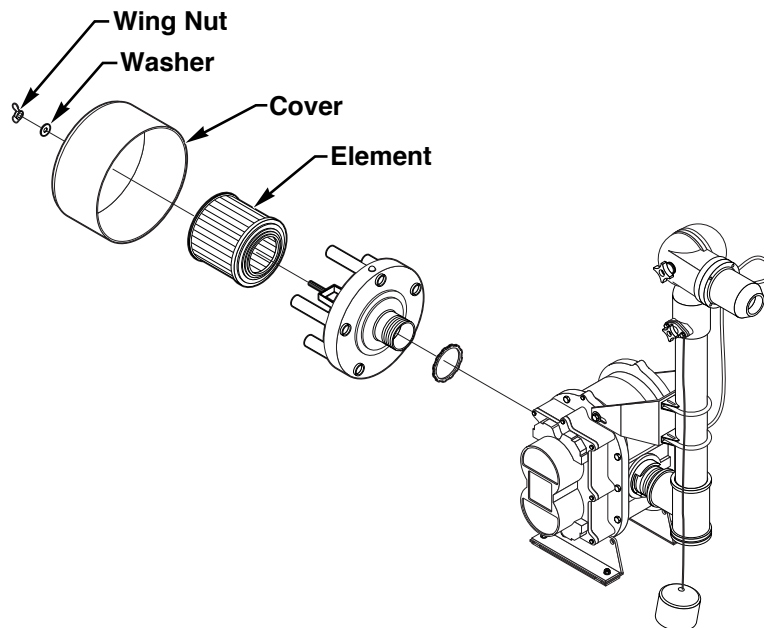

Figure 10- Element Replacement
- Remove and clean the element in the filter-silencer as follows. Reference Figure 10.
8. Remove and clean the filter-silencer element and housing as explained in Maintenance (page 43) section. Reference Figure 10.